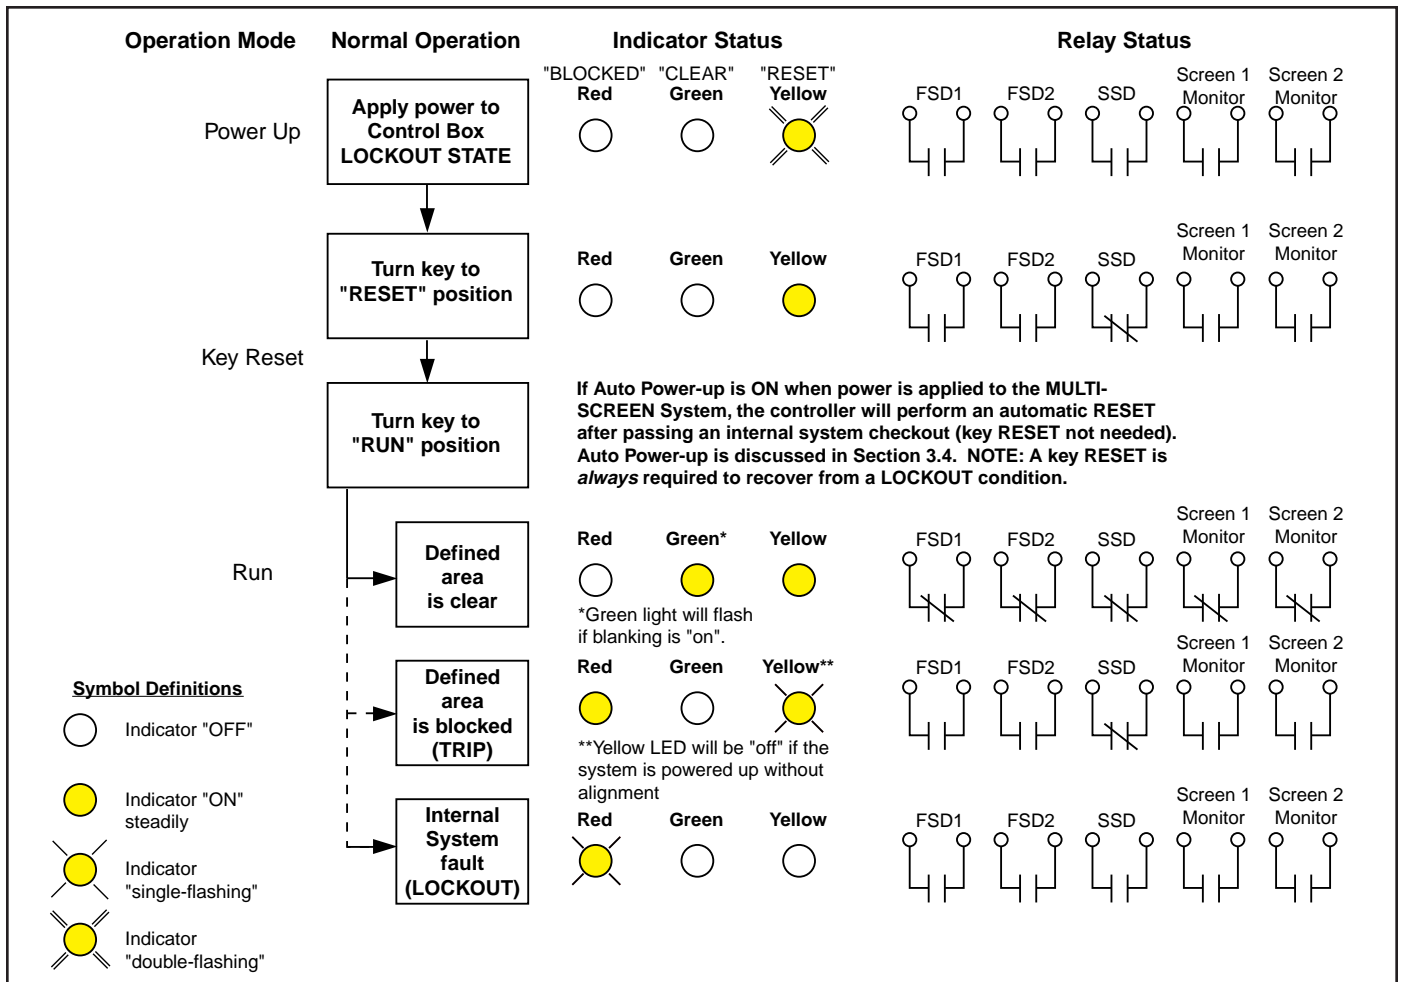

Figure 5. MULTI-SCREEN System status indicators and associated output conditions
- 1) Upon "power-up" of the MULTI-SCREEN System (unless Auto Power-up is "on"; see Figure 5, page 11),
- 2) If power to the MULTI-SCREEN System is interrupted (unless Auto Power-up is "on"; see Figure 5),
A lockout condition resulting from an internal system fault is indicated by a flashing red status indicator LED on the control box. The green and yellow LEDs will be "off". See Fig. 5, page 11.